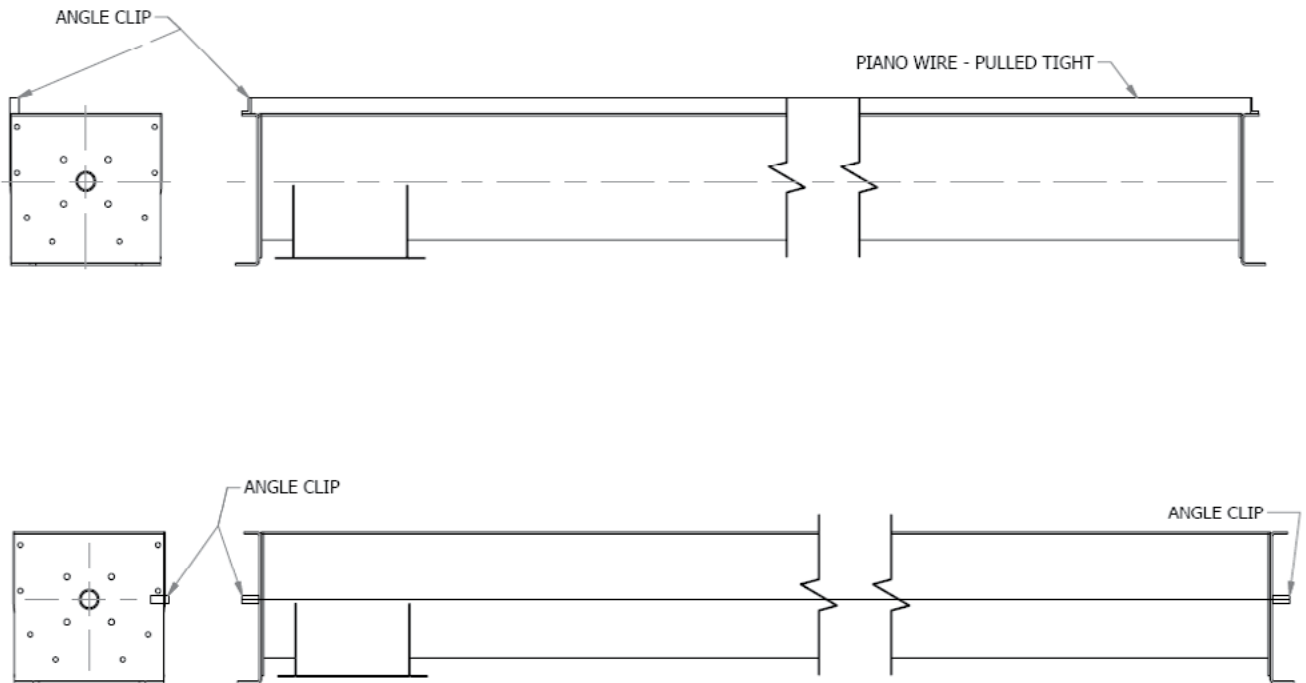

Figure 1. Piano Wire Setup Diagrams
6. Attach the piano wire full length of the conveyor at the centerline. Make sure the piano wire is pulled tight. Refer to Figure 1 at the end of this section.